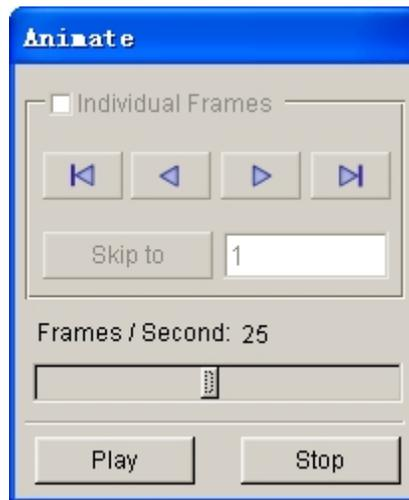

Figure 8.2.7 Animate dialog box
**ANIMATION** — Animate the movement of tools. After selecting this function, the Animate dialog box as shown in Figure 8.2.7 is displayed. Detailed description of the animation control is provided in Section 10.11.